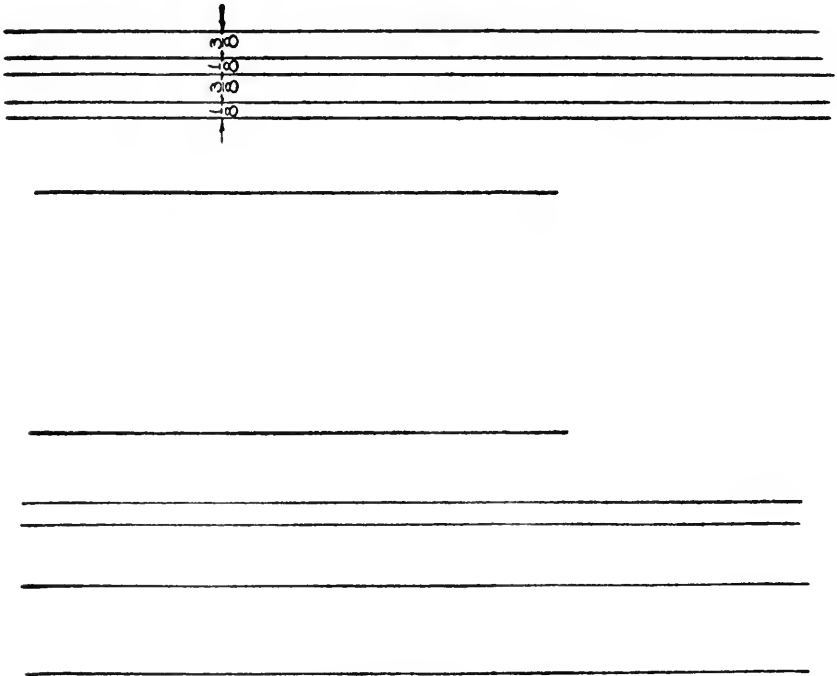
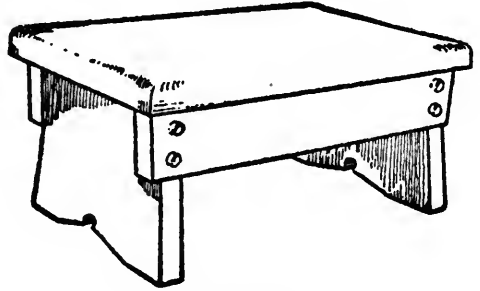

Fig. 4.
Fig. 8.
- (See Figs. 4, 5, 6, 7 and 1.) As shown by these figures, the steps to be taken are as follows:
- (1) Locate and draw lightly and of indefinite length the main horizontal lines. (See Fig. 4.)
- (5) Dimension and letter the plate. (See Fig. 1.) Note the title strip used. The spacing of the guide lines for the lettering is shown in Fig. 4. Fig. 8 shows a Perspective or picture view of the finished stool.